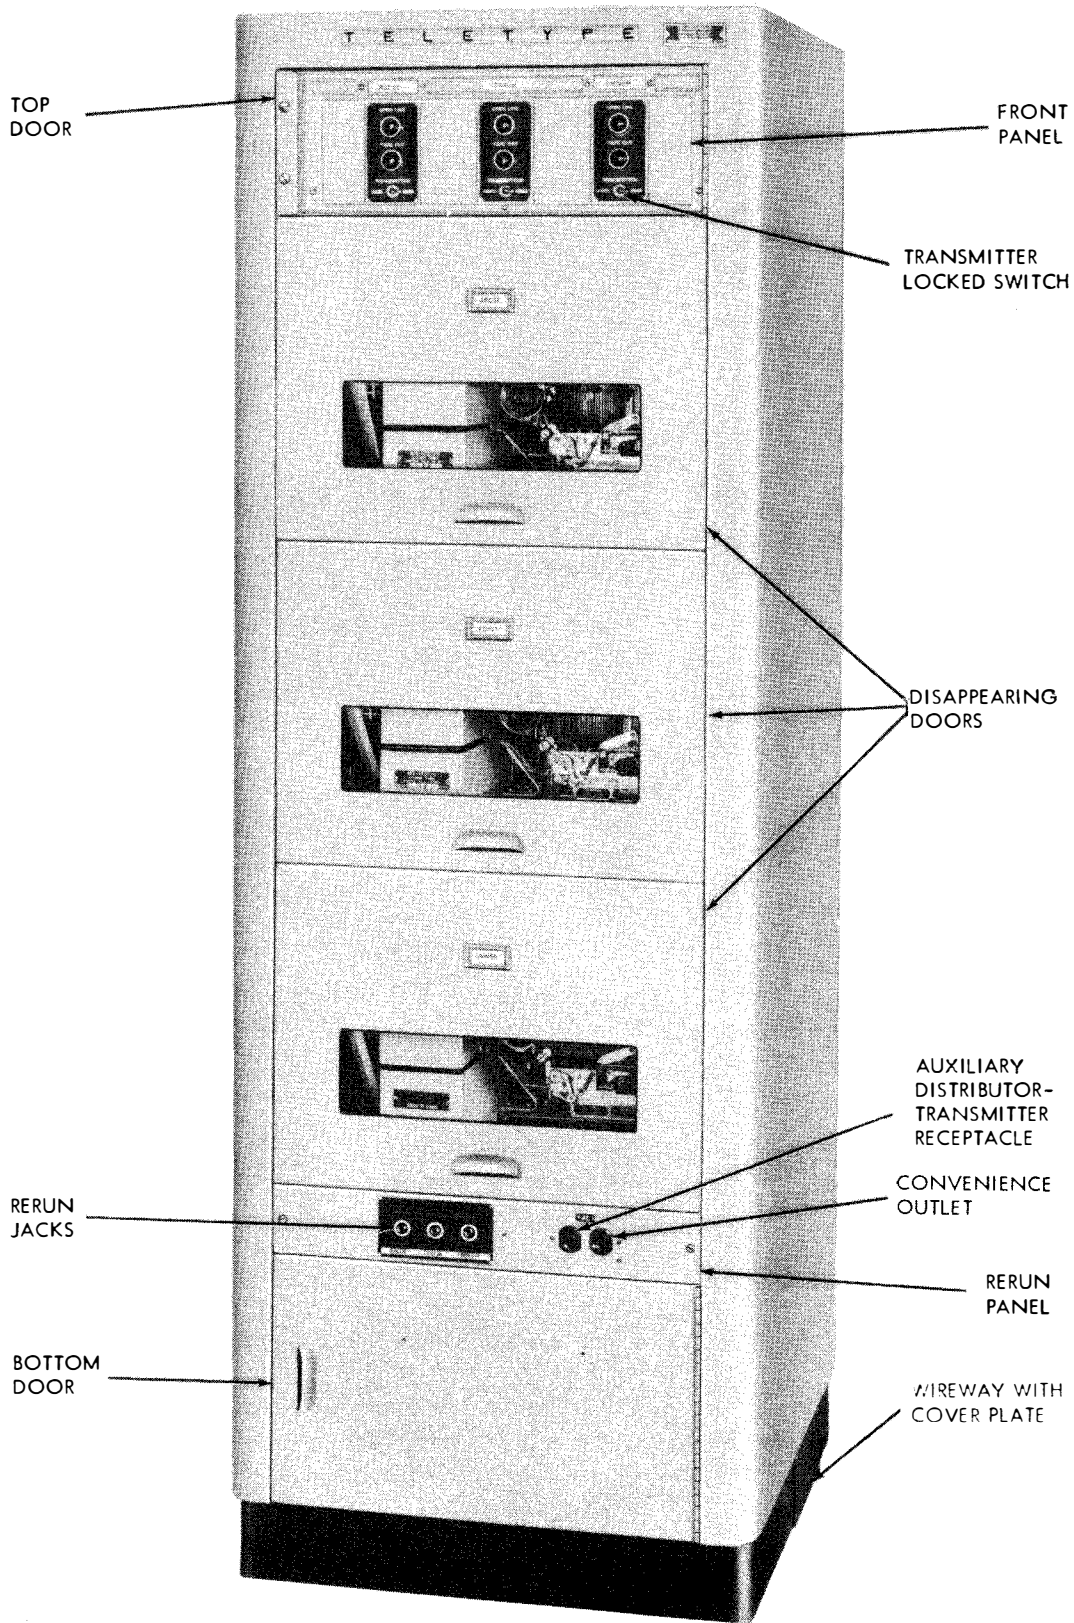

Figure 1-4. Electrical Equipment Cabinet CY-1522/FGC (Monitoring), Oblique View
c. **CABINET, ELECTRICAL EQUIPMENT CY-1522/FGC (MONITORING).**—This cabinet contains three Typing Reperforators, three Time Stamps MX-1527/U (except in AN/FGC-38X), and three Motor Driven Tape Reeling Machines RL-173/FGC (see figure 1-4). Each reperforator is mounted with one time stamp and one reeling machine on a sliding shelf. There is extra storage space for rolls of fresh tape in the bottom of the cabinet enclosed by a hinged door. The front panel is the hinged door at the top of the cabinet and contains an OPEN LINE lamp, a TAPE OUT lamp, and a TRANSMITTER NORMAL-LOCKED switch. The RERUN panel, located just above the bottom storage space, contains two power receptacles and three rerun jacks. The cabinet measures approximately 77 $\frac{3}{8}$ inches x 27 inches x 24 inches, and weighs approximately 620 pounds including the components.
(1) GENERAL DESCRIPTION.